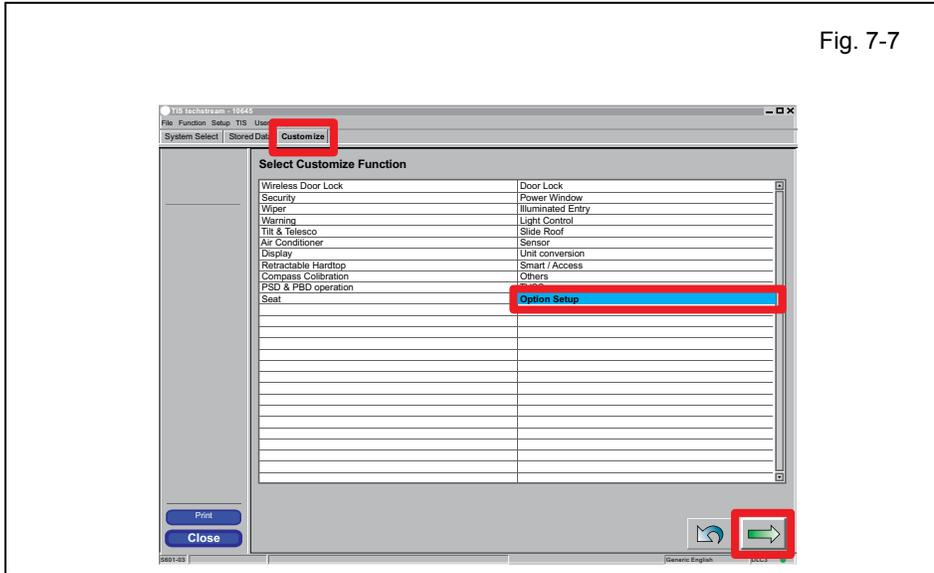

Fig. 7-7
- k. Make sure that the “Customize” tab is selected. (Fig. 7-7)
- l. Select “Option Setup”. (Fig. 7-7)
- m. Click  (Fig. 7-7)